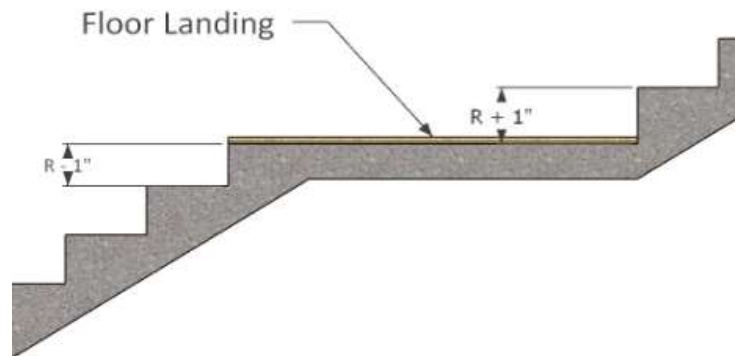

Figure 9: Dimension coordination at floor landings of stairs
- Fig. 9: Where Acoustic Sleeper system is installed over the entire floor plate, extend system onto floor landings at stairs. Fabricate first riser down from landing 1-inch shorter than typical riser in run. Fabricate first riser up from landing 1-inch taller than typical riser in run. Intermediate landings do not need this alteration.